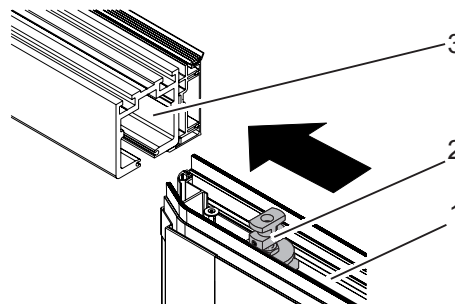

Fig. 14: Attaching the fixed panel to the track
3. Slide the fixed panel (Fig. 14/1) with the first fixed panel holder (Fig. 14/2) into the track (Fig. 14/3).
1. If not done, remove the revision piece (Fig. 14/1).